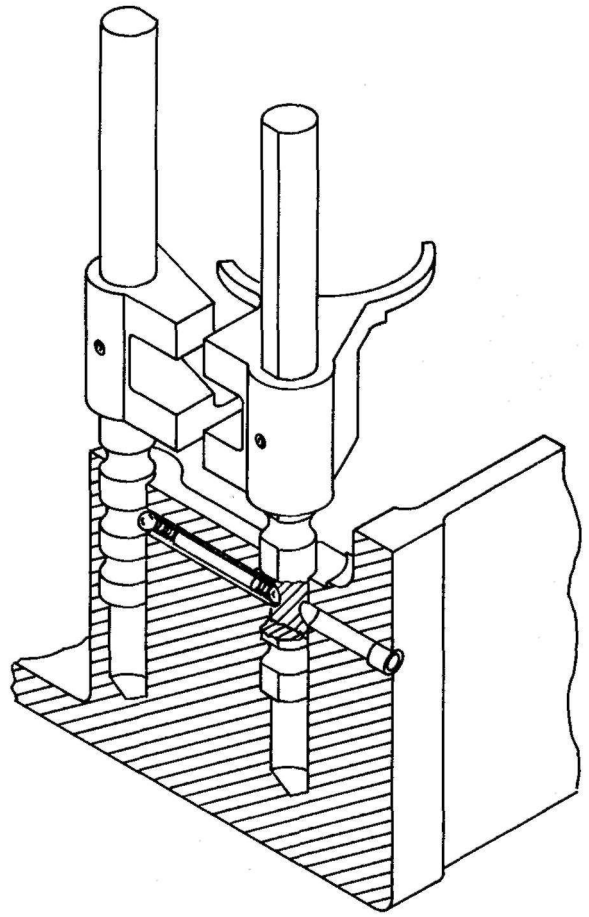

FIGURE 14
3. Install one stop ball, spring and stop pin. Refer to detent drawing and Figure 14.
4. Install the 2nd stop ball and using a punch push the ball in against the spring. Move the 2nd & high shift rail into the neutral position and continue to push on the punch until the ball is flush with the shift rail bore. At the same time insert the low and reverse shift rail and fork assembly, removing the punch, as the shift rail passes the ball. **See Detent Drawing.** Figure 14 and 15.